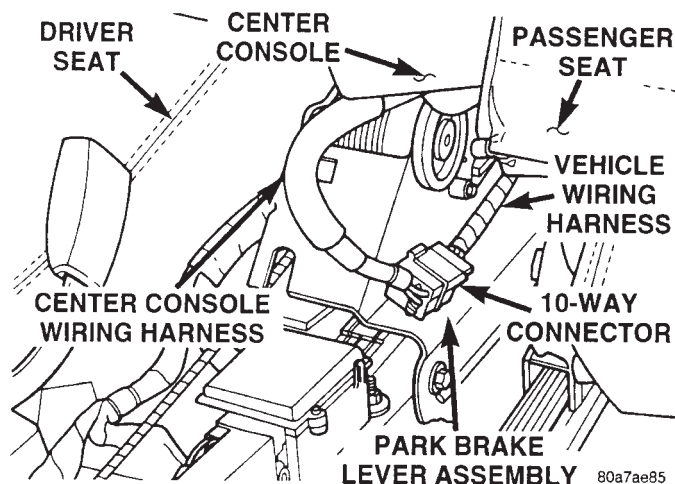

**Fig. 134 Console Wiring Harness Connector**
(5) Raise the park brake lever to a 45° angle. This is required for clearance to remove the center console.
(6) Raise the rear of the center console high enough to access the center console wiring harness connector (Fig. 134). Disconnect the center console wiring harness connector from the vehicle wiring harness 10-way connector (Fig. 134).
(7) Remove the center console from the vehicle.
(8) Lower the park brake lever to its fully released position.
(18) Check the rear wheels of the vehicle with the park brake lever fully released, they should rotate freely without dragging.
(19) Raise the park brake hand lever to approximately a 45° angle. This is necessary for the required clearance to install the center console.
(20) Install the center console back in the vehicle.
(21) Install the wiring harness connector for the center console into the vehicle wiring harness (Fig. 134).